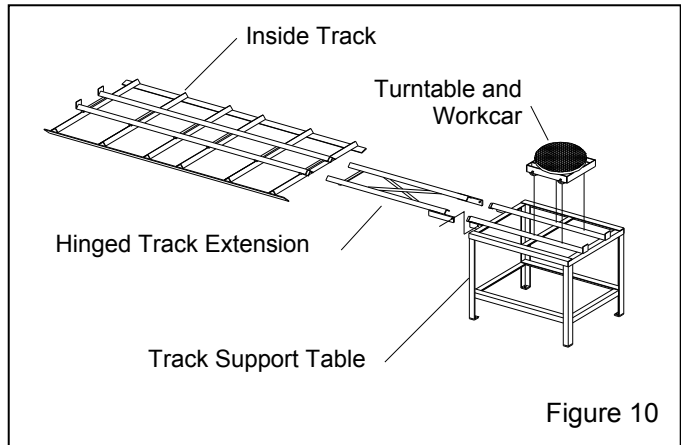

Figure 10
**3.5.1** Components of the turntable and track assembly are shown in Figure 10. The assembly consists of: